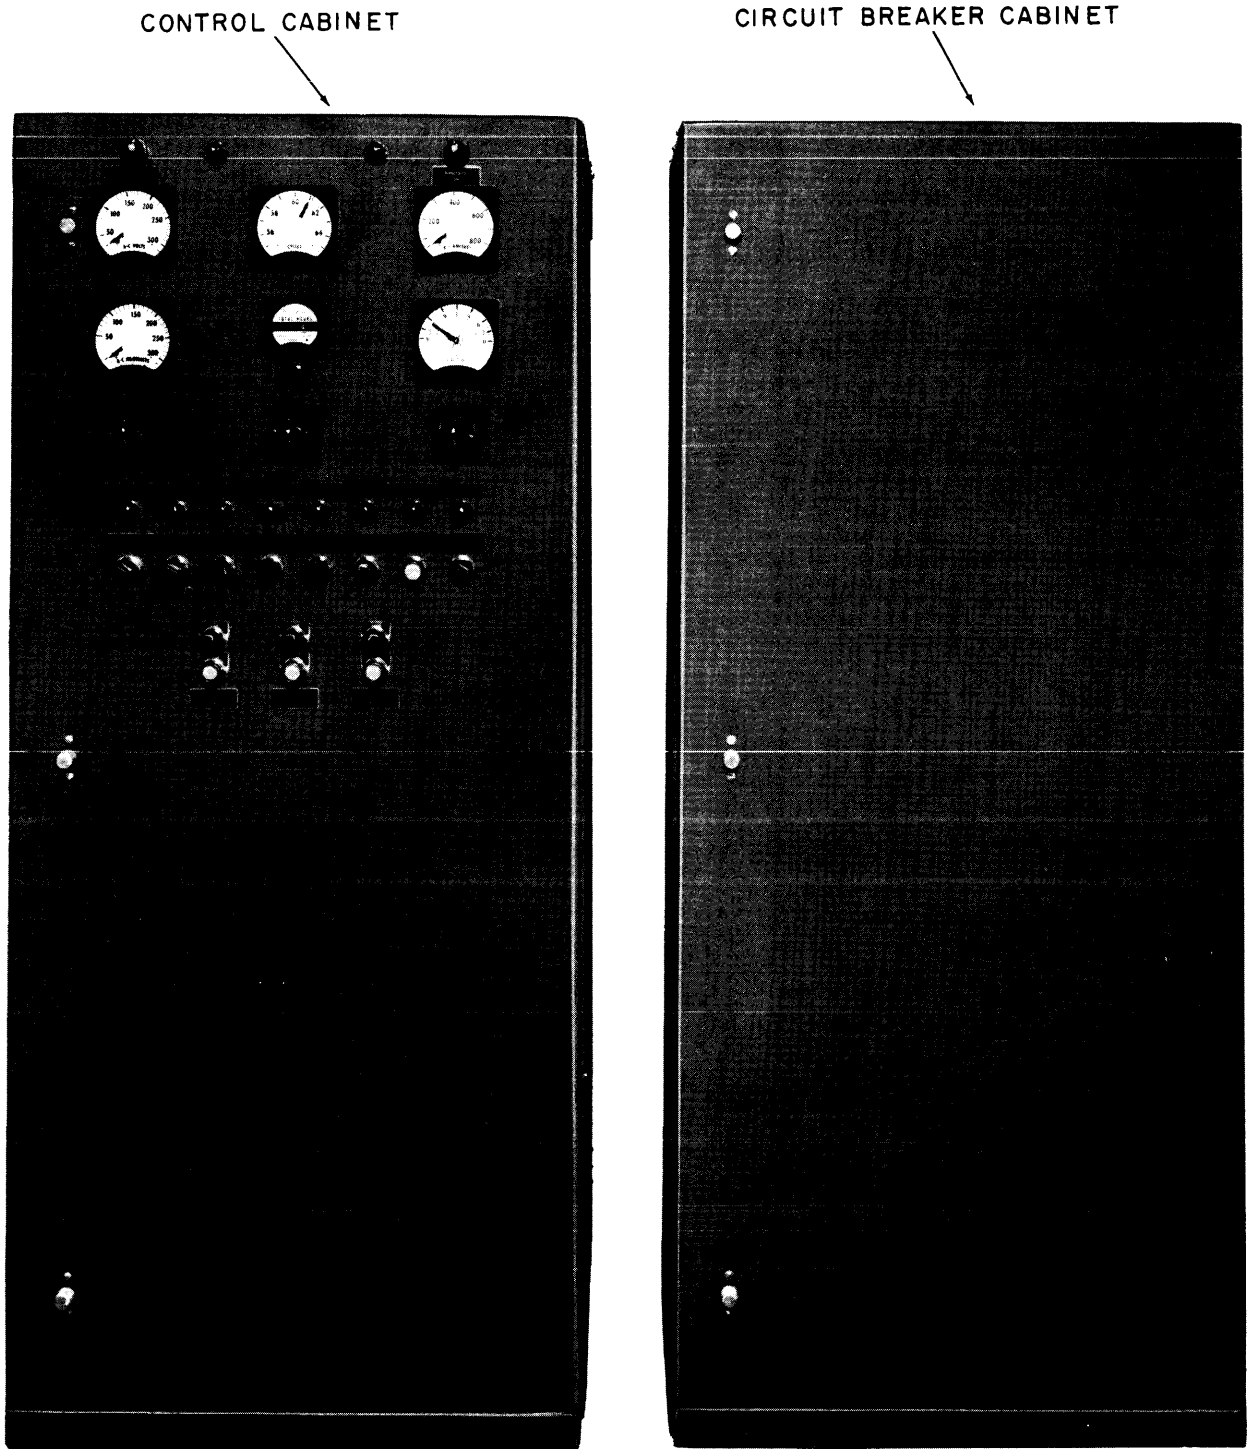

Figure 1-8. Control and Circuit Breaker Cabinets
b. Control System. - The control system consists of the control cabinet and the circuit breaker cabinet. The cabinets may be installed near the generator set or at a remote location - See figure 1-8.
(1) Control Cabinet. - The power systems control knobs, meters, and indicator lights are located on the front panel of the control cabinet. The interior of the cabinet contains; governor and clutch control equipment, voltage and frequency sensing devices, timing relays, synchronizers, bearing and water over-temperature relays. It is the equipment in this cabinet that regulates the generator set, providing a precise,